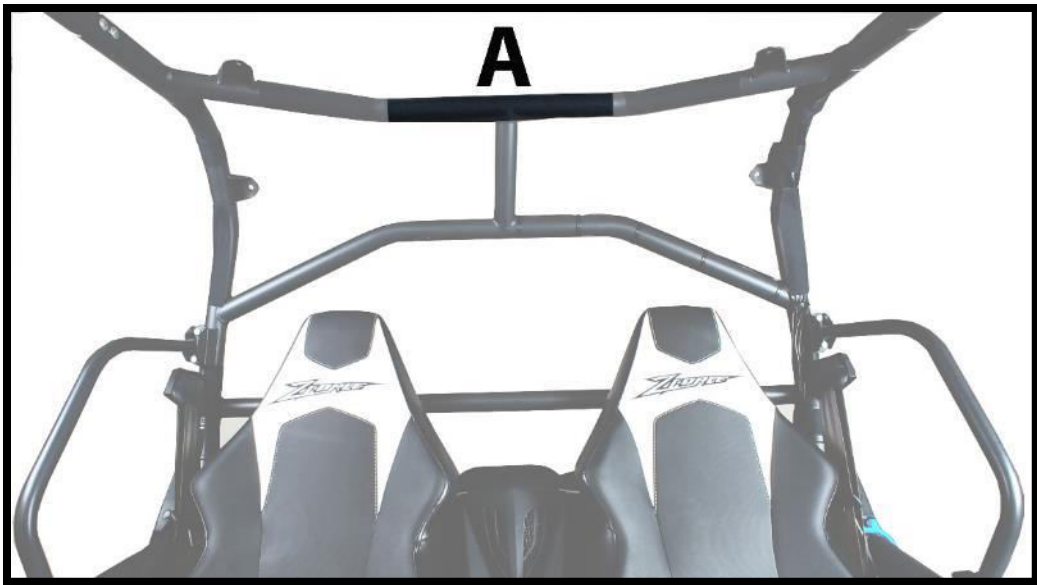

Figure 1: SHOWS POSTION OF 18" VELCRO STRIP (A)
Figure 1: SHOWS PLACEMENT OF 6" VELCRO STRIPS (A) AND 10" VELCRO STRIPS (B) VELCRO TABS ON DOOR WILL WRAP OVER THE TOP OF THE ROLL BAR AND ATTACH TO ADHESIVE STRIP.